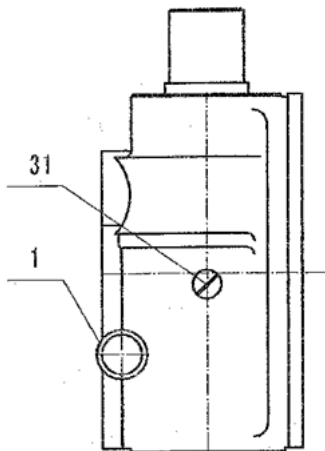

Fig 2
The washer (3) is rubbed 0.12mm away if eliminate 0.01mm radial backlash due to taper of spindle neck is 1:12. Remove the plug (31) on the vertical milling head side (see Fig.2) in order to tighten nut (1), loosen the screw (2) with inner hexagon spanner through the taphole, at the same time turn the spindle with other wrench, so nut (1) will move axially.